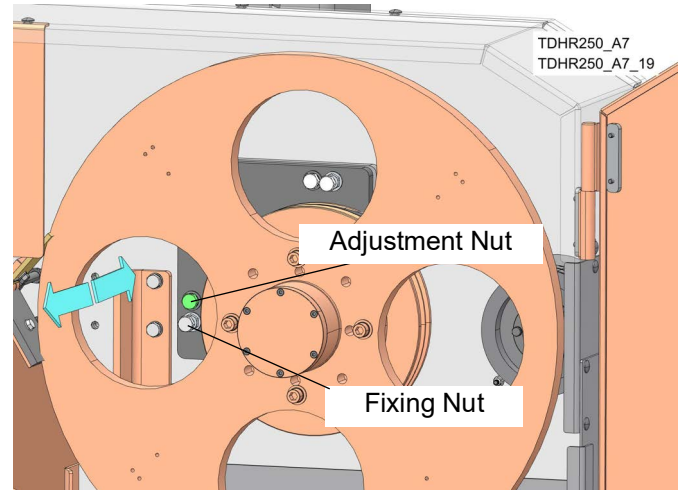

FIG. 3-17
9. Loosen lower fixing nut. See FIG. 3-17